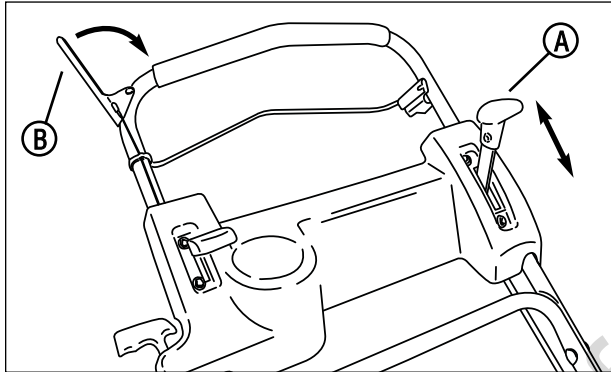

Figure 4: Mower drive controls
2. Move the ground speed control **(A, Figure 4)** to the desired speed position.